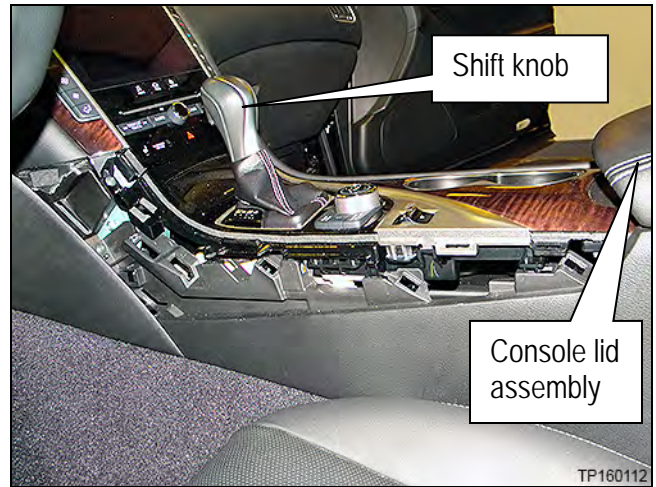

Figure 15D
- a. Raise the console lid assembly (partially shown in Figure 15D).